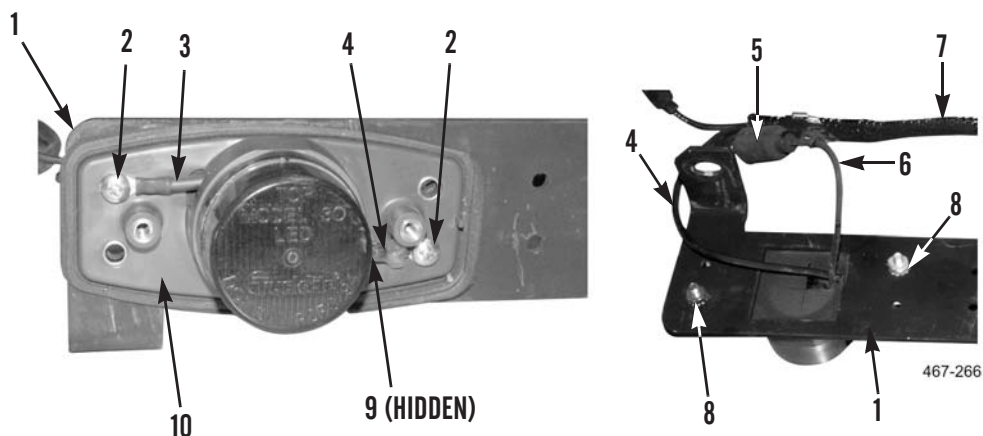

Figure 59. Outside Light Installation.
6. At outside light location of bracket (Figure 59, Item 1), feed light wire (Figure 59, Item 6) through bracket and connect to original wiring harness connector (Figure 59, Item 5).
7. Feed ground wire (Figure 59, Item 4) from harness (Figure 59, Item 7) through back of bracket (Figure 59, Item 1) and back of light (Figure 59, Item 10), out through access hole (Figure 59, Item 9).
8. Install light (Figure 59, Item 10), two screws (Figure 59, Item 2), ground wires (Figure 59, Items 3 and 4), and nuts (Figure 59, Item 8) on light bracket (Figure 59, Item 1).